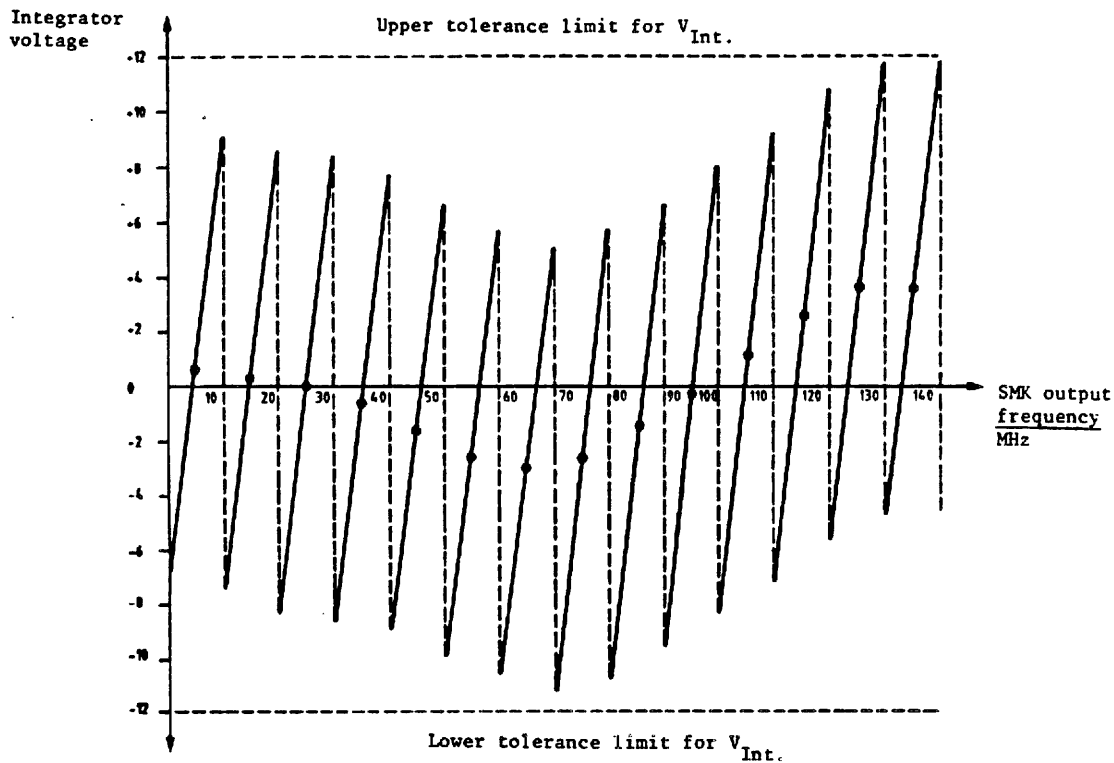

Fig. 5-2
Increase the frequency obtained for the highest integrator voltage by 4.9 MHz. The integrator voltage must not exceed +12 V (see also Fig. 5-2).
- Reduce the frequency obtained for the lowest integrator voltage by 5 MHz. The integrator voltage must not fall below -12 V (see also Fig. 5-2).